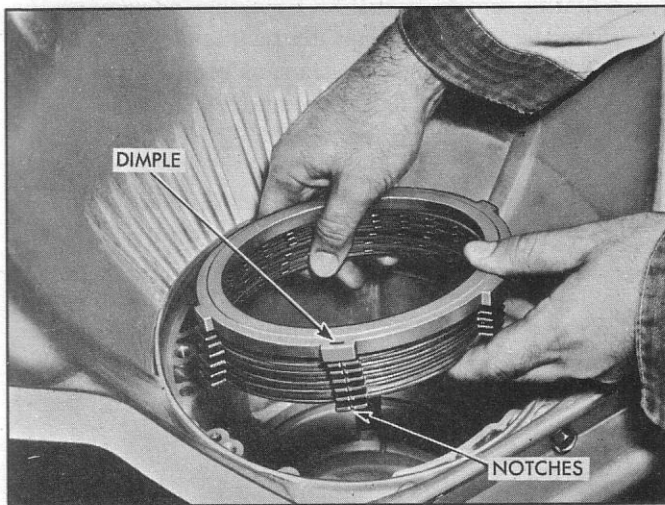

Fig. 37—Installing Clutch Plates
11. Lubricate and install the reverse clutch pack (fig. 37) beginning with a reaction (spacer) plate and alternating with the drive plates (faced) until the six reaction plates and six drive plates are in place. The notched lug on each reaction plate is installed in the groove at the 7 o'clock position in the case. Then install the thick pressure plate which has a "dimple" in one lug to align with the same slot in the case as the notched lugs on the other reaction plates.